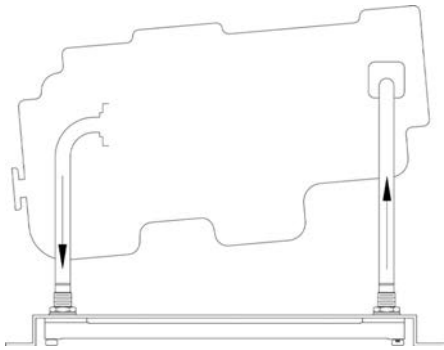

FIG. 12 Plumb keel cooler directly to the engine (simplified)
- 2.5.2 When converting an engine from inboard heat exchanger cooling to keel cooling, do not pipe the keel cooler to a heat exchanger, bypass the heat exchanger and pipe the keel cooler directly to the engine. See Figure 12 (next page).